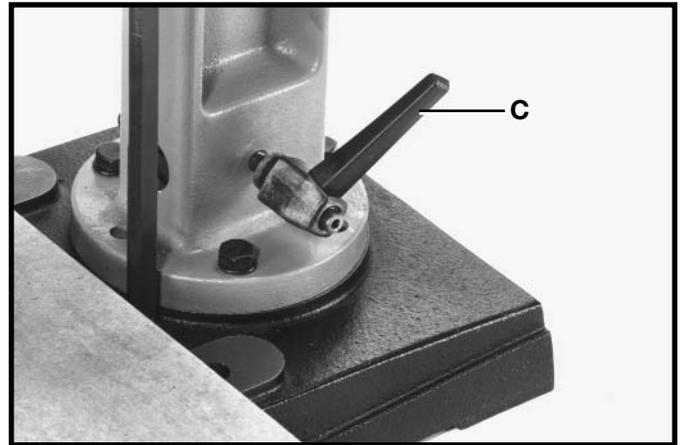

Fig. 10
4. Fig. 10 illustrates the handle assembly (C) assembled to the column.